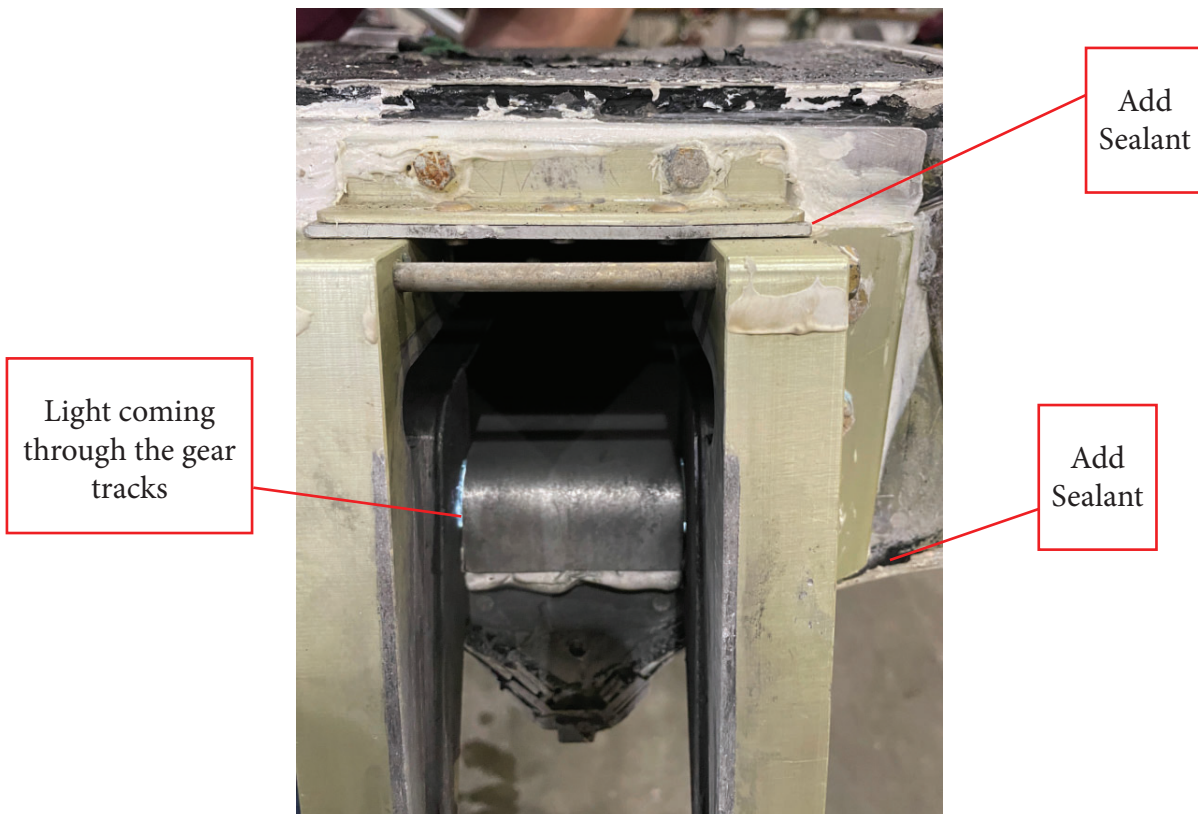
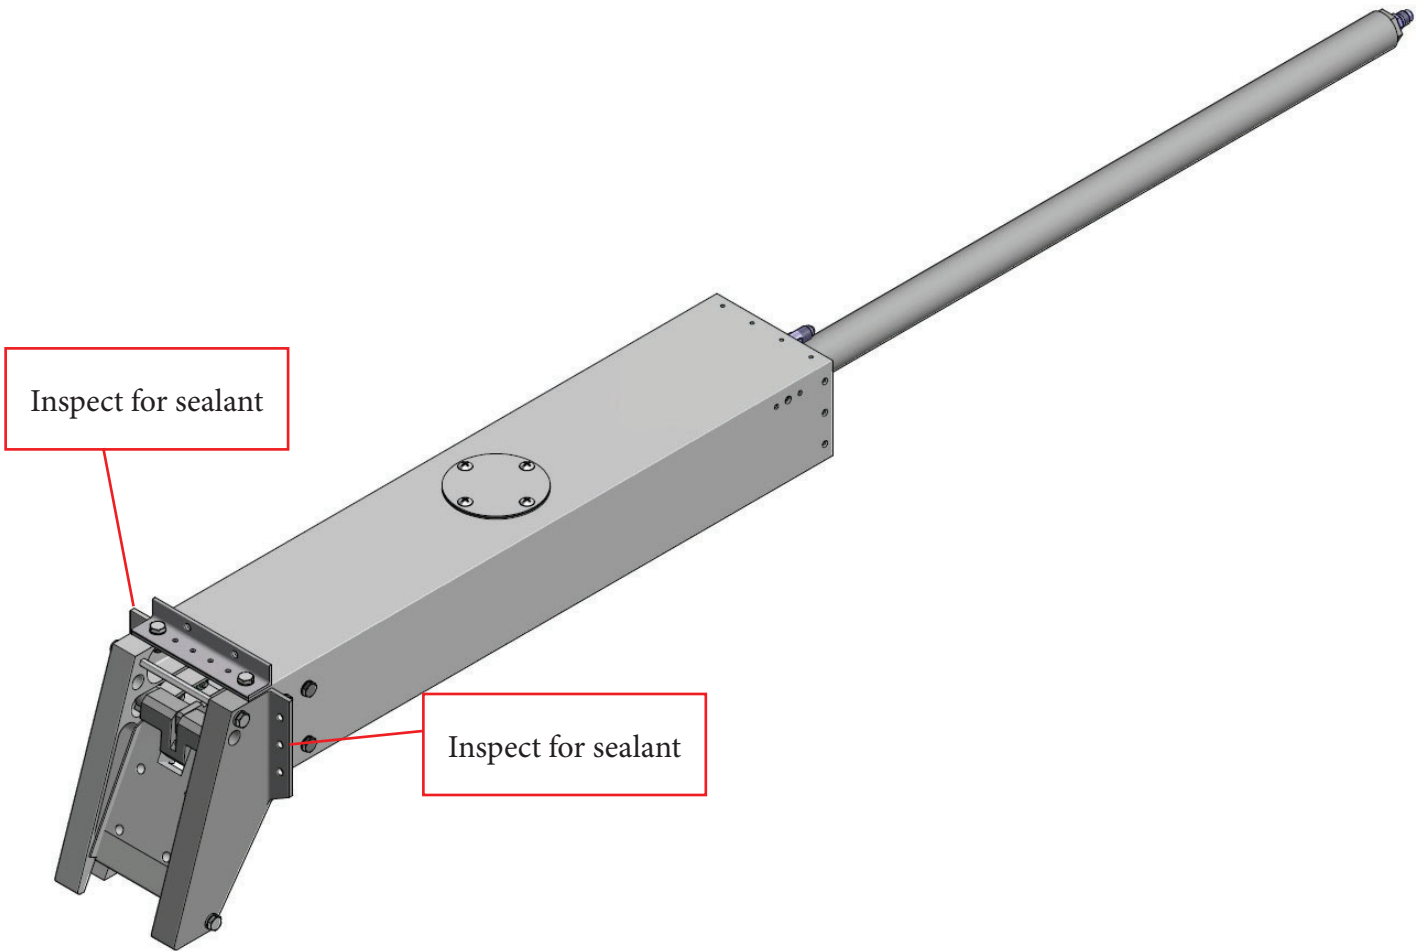

Figure 1: Nose Box with missing sealant around attachment flange
Figure 2: Gear Track Attach Locations
Reference Figure 1
1. If needed, remove the nose cap to gain access to the front of the nose gear box. Inspect the attaching nose box flange for proper amount of sealant. An example of a flange that needs more sealant is shown in Figure 1. Below is a list of approved float sealants.
2. Inspect the exterior of the gear box from inside the FWD most float compartment. Shine a flashlight to check for missing sealant. Figure 1 shows light from the float compartment entering the nose tracks. In this example, as shown in Figure 2, the gear track attach locations could be missing sealant.